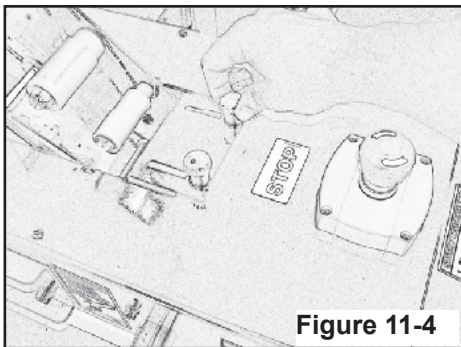

Figure 11-4
2. Loosen the upper taping head clamp thumb screws. Move the clamp away from the taping head (**Figure 11-4**).